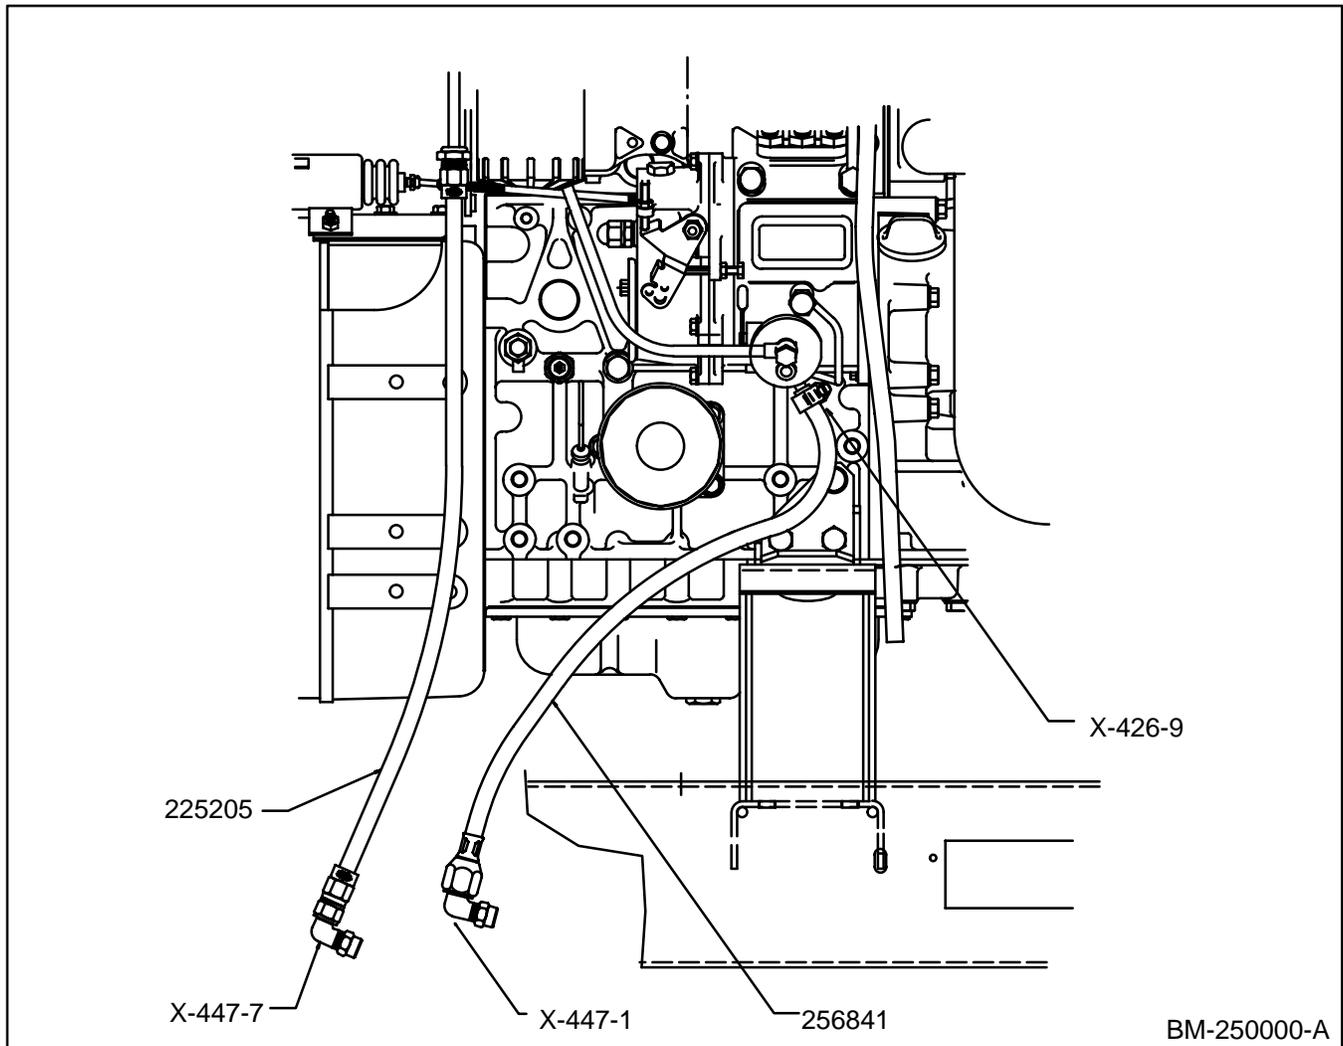

Figure 1. Flexible Fuel Line Connection 6 kW Diesel Standby Generators
4. Use Figure 1 to mount the flexible fuel line kit. Apply pipe sealant to all threaded fittings. Refer to parts list following for description of components.